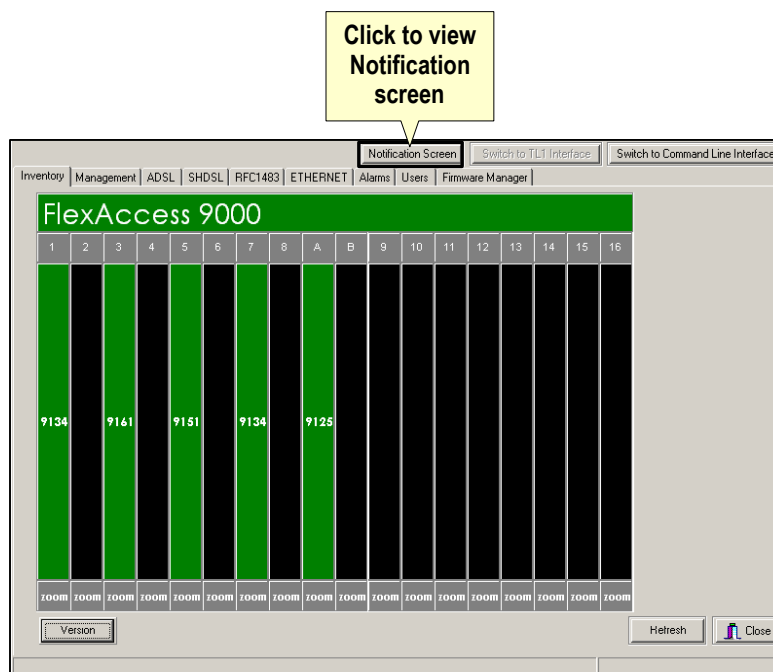

Figure 42 – ‘Notification Screen’ access
- 1 On the **Inventory** screen or the **Inventory status** screen for any card, click **Notification Screen** (Figure 42) to view error text output.